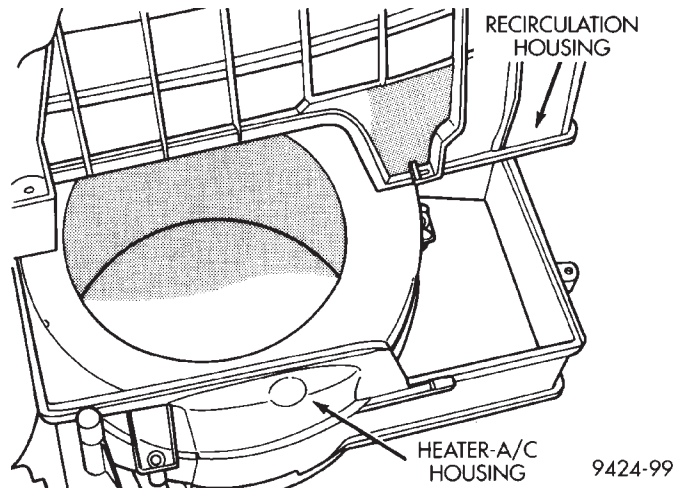

Fig. 93 Recirculation Housing
(20) Install blower motor wiring to the blower motor resistor.
(21) Position recirculation housing to A/C housing (Fig. 93). Install retaining screws and clip.